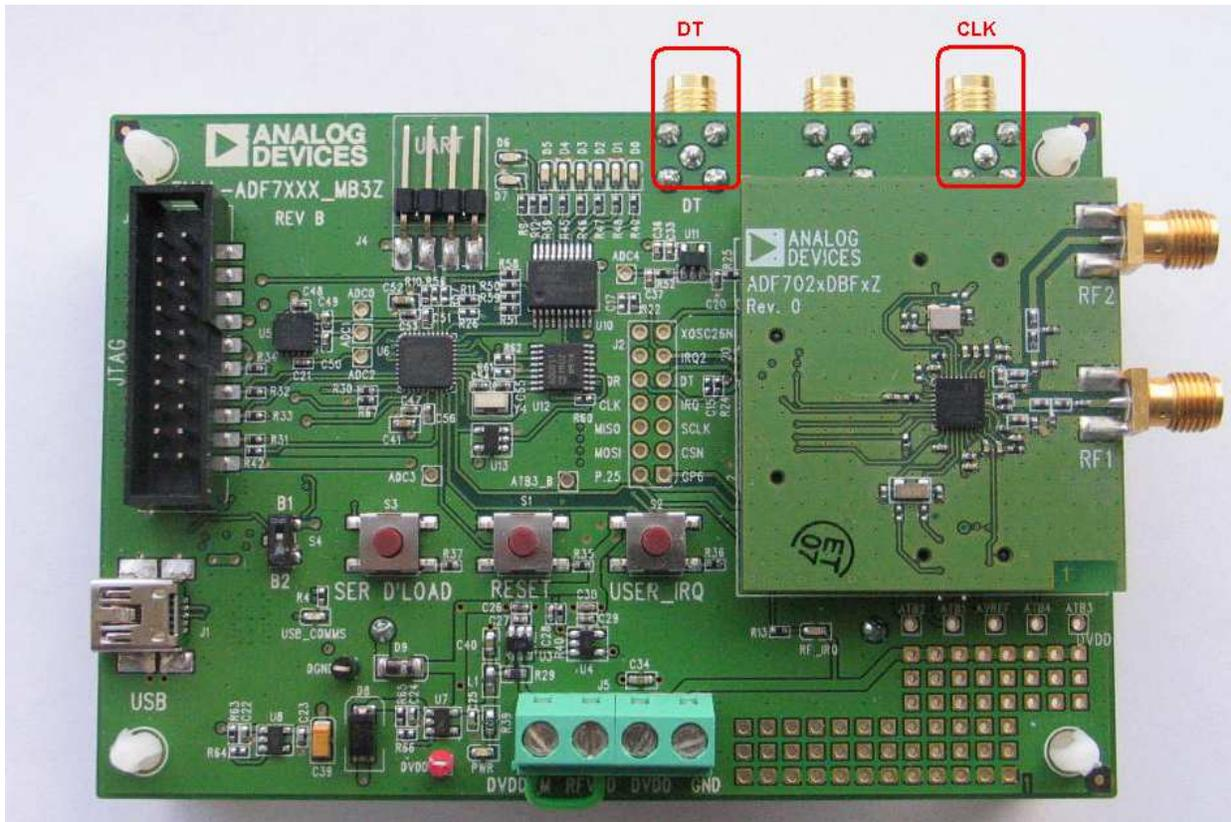

Figure 30
- While in **PHY Tx** with SPORT mode enabled, the transmitted data must be synchronized with the output clock seen on the CLK SMA connector on the mother board as shown in (Figure 30)
- The Tx data line, from the users Tx device, should be connected to the DT SMA connector as shown in (Figure 30).